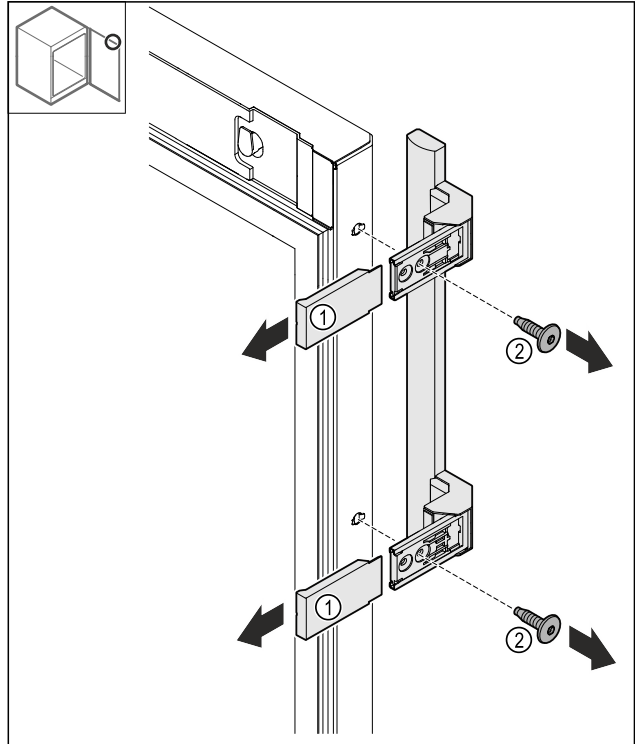

Fig. 26
- Remove the covers Fig. 26 (1).
- Loosen the screws Fig. 26 (2).